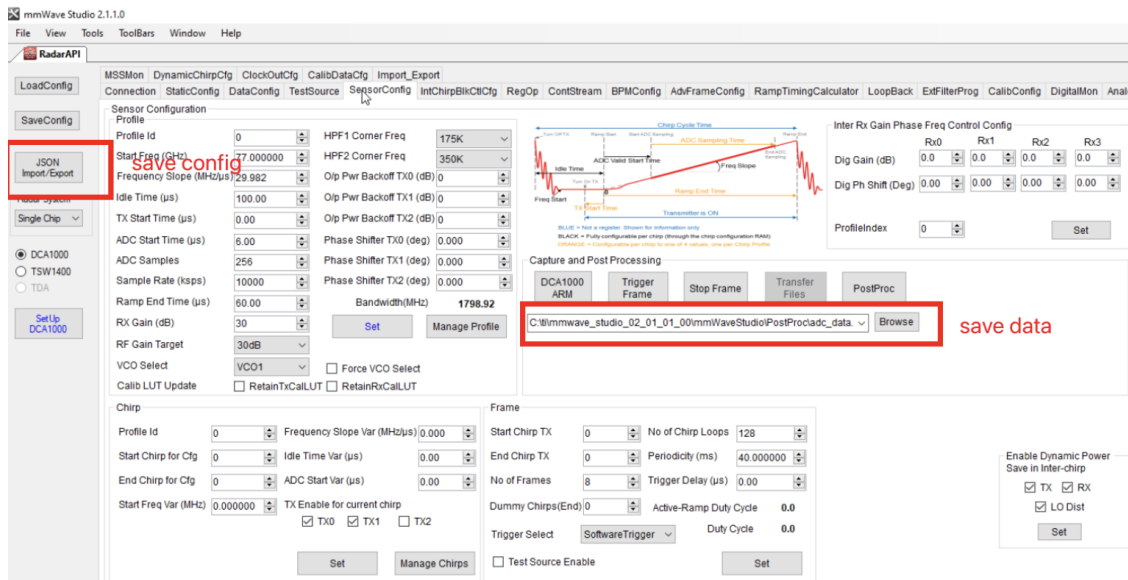

Figure 1: Saving data and configurations from DCA
1. You can save data and save the config in Figure 1